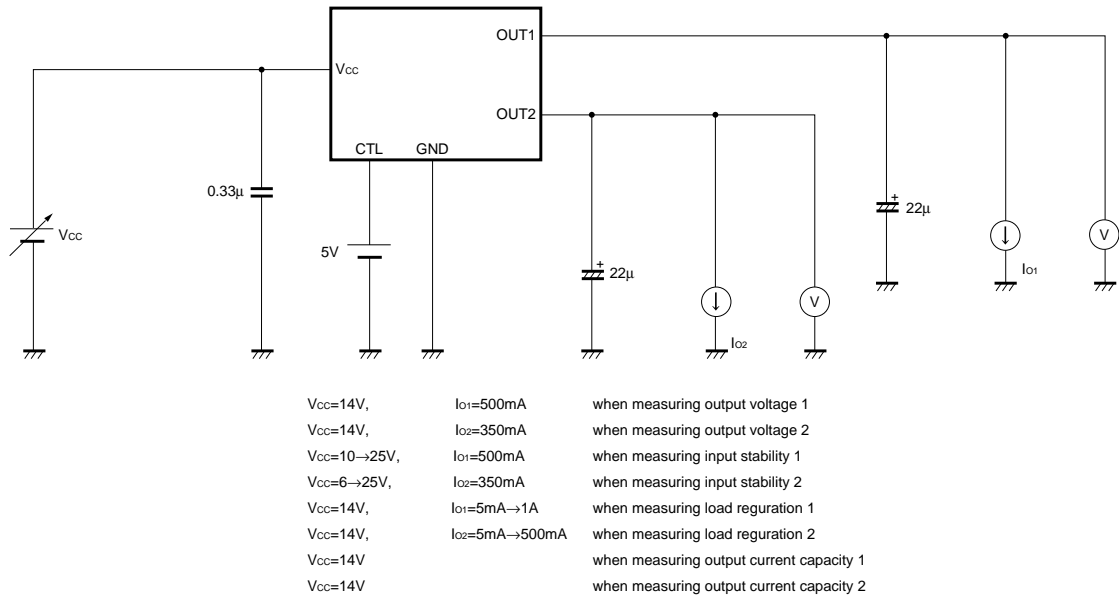

Fig.1 Circuit for measuring output voltage, input stability, load regulation, and output current capacity
Figure 1 is a graph showing the Load Regulation Characteristics of the LM317. The Y-axis represents Output Voltage: V_O (V), ranging from 0 to 12. The X-axis represents Output Current: I_O (mA), ranging from 0 to 2000. The graph shows two curves, V_{O1} and V_{O2} , representing the output voltage versus output current for different load conditions. The top curve, V_{O1} , shows a constant output voltage of approximately 9V for output currents up to about 1500mA, after which it drops sharply. The bottom curve, V_{O2} , shows a constant output voltage of approximately 5V for output currents up to about 800mA, after which it drops sharply. The graph is for $V_{OC}=14V$ and $T_a=25^\circ C$.
Figure 1 is a line graph showing Power Dissipation (P_d) in Watts (W) on the Y-axis versus Ambient Temperature (T_a) in degrees Celsius ($^{\circ}\text{C}$) on the X-axis. The Y-axis ranges from 0 to 28 W in increments of 4. The X-axis ranges from 0 to 150 $^{\circ}\text{C}$ in increments of 25. Four curves are plotted, representing different heat sink conditions:
- (1) With infinite heat sink: A solid line starting at 22 W at 25 $^{\circ}\text{C}$ and decreasing linearly to 0 W at 150 $^{\circ}\text{C}$.
- (2) With Al heat sink 100x100x2 (mm 3): A solid line starting at 12 W at 25 $^{\circ}\text{C}$ and decreasing linearly to 0 W at 150 $^{\circ}\text{C}$.
- (3) With Al heat sink 50x50x2 (mm 3): A solid line starting at 6 W at 25 $^{\circ}\text{C}$ and decreasing linearly to 0 W at 150 $^{\circ}\text{C}$.
- (4) Without heat sink: A dashed line starting at 2 W at 25 $^{\circ}\text{C}$ and decreasing linearly to 0 W at 150 $^{\circ}\text{C}$.